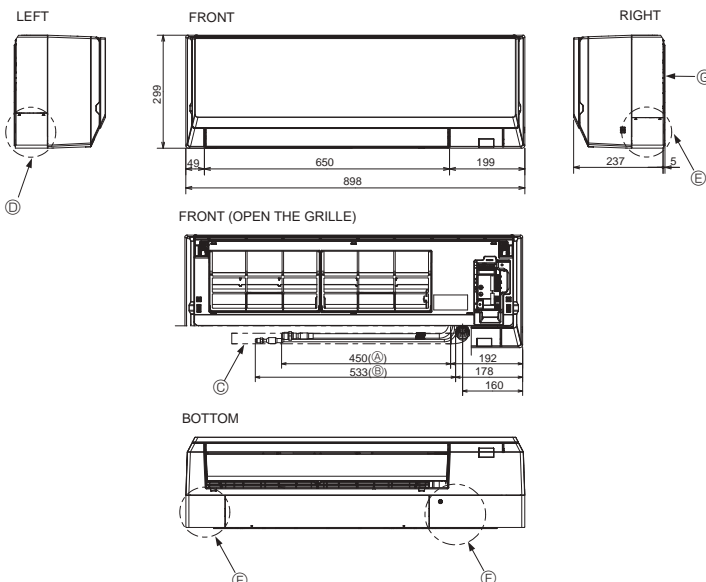

Fig. 4-3
4.3. Positioning refrigerant and drain piping (Fig. 4-3)
- (A) Gas pipe
- (B) Liquid pipe
- (C) Drain hose (Effective length: 500)
- (D) Left-side piping knockout hole
- (E) Right-side piping knockout hole
- (F) Lower piping knockout hole
- (G) Mount board